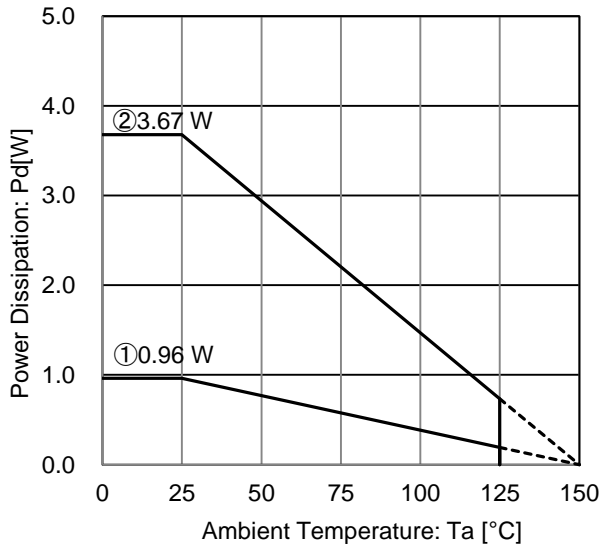
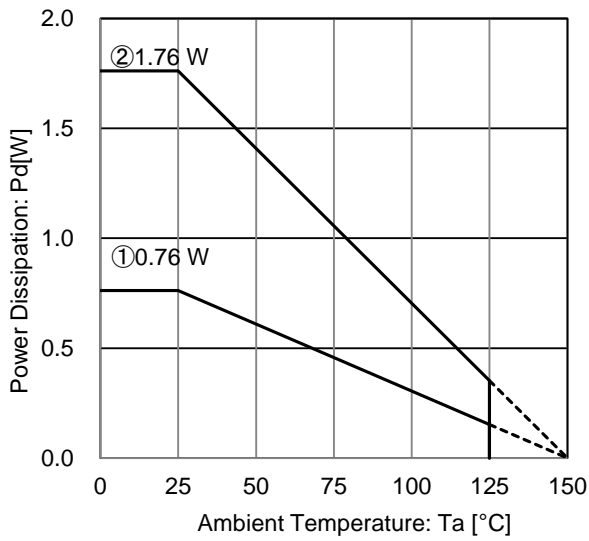

Figure 25. HTSOP-J8 Package Data
Figure 27. SOT223-4(F) Package Data
Refer to the heat mitigation characteristics illustrated in Figure 25 to Figure 27 when using the IC in an environment of $T_a \geq 25^\circ\text{C}$. The characteristics of the IC are greatly influenced by the operating temperature, and it is necessary to operate under the maximum junction temperature T_{jmax} .
At $T_a = 125^\circ\text{C}$ with Figure 25 ② condition, the calculation shows that ca 71.5mA of output current is possible at 10.2V potential difference across input and output.
At $T_a = 125^\circ\text{C}$ with Figure 25 ② condition, the calculation shows that ca 85.8mA of output current is possible at 8.5V potential difference across input and output.
At Ta=125°C with Figure 27 ② condition, the calculation shows that ca 34.3mA of output current is possible at 10.2V potential difference across input and output.
At Ta=125°C with Figure 27 ② condition, the calculation shows that ca 41.1mA of output current is possible at 8.5V potential difference across input and output.